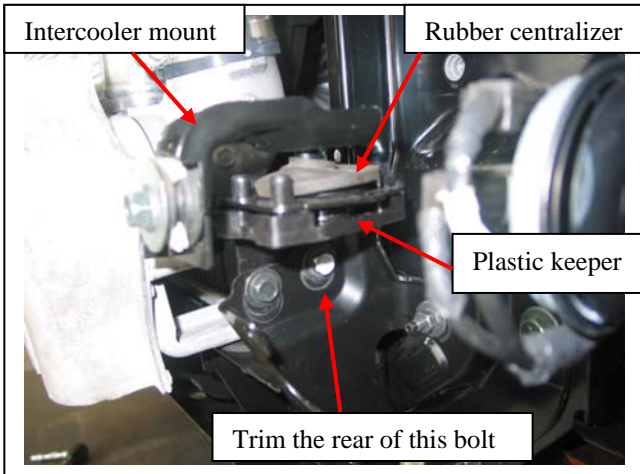

Figure 7 – Completed intercooler mount change
12. **TURBO DIESEL MODELS:** When refitting intercooler mounting bracket. Remove plastic keeper, rubber centraliser and intercooler mount. Turn upside down and refit to vehicle. Trim bolt on rear of mount flat to nut. (Two 12mm bolts, one 13mm bolt, one 10mm bolt). **See figure 7.**